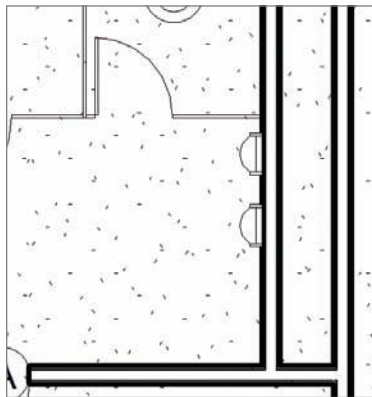

FIGURE 9.43 Adding the urinals to the men's room
5. Place two urinals about 1'-0" away from the front of the stall, with a 2'-0" space between the two, as shown in Figure 9.43.